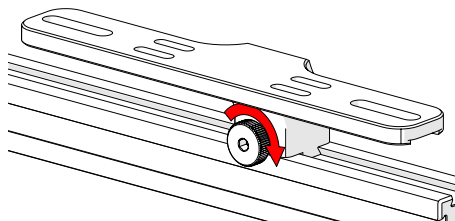

Fig. 148 - Tighten knob
2. Tighten the knob to lock the preamp bracket in place (*Fig. 148*).